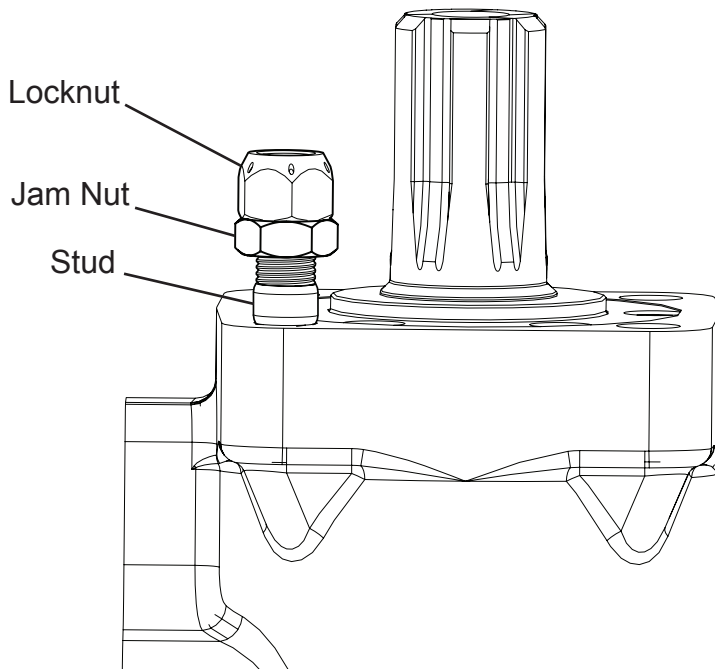

Figure 10
6. Apply one (1) drop of Loctite 263 on the coarse thread end of a stud (PN 1580897). Do not apply more than one drop. Excessive Loctite in the holes of the motor will not allow the studs to install completely.
7. Screw the coarse thread end of the stud into the mounting hole of a motor (Figure 10).
8. Install one (1) temporary jam nut halfway down on the fine thread end of the stud (Figure 10).
9. Install one (1) temporary locknut (PN 1141067) on top of the jam nut (Figure 10). Finger tighten the nuts until they meet.
13. Repeat Steps 6-12 on the remaining three (3) studs of this motor and again for the other motor and (4) studs.